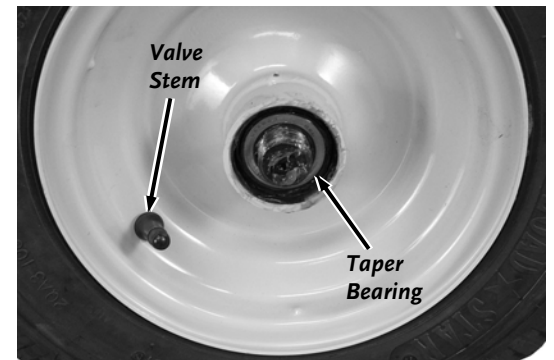

Figure 66
5. Pull the Wheel assembly and Taper Bearing from The Axle (**Figure 66**).